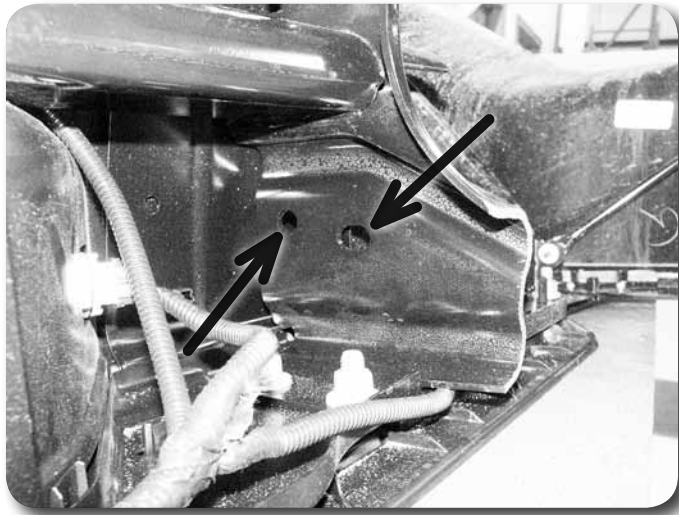
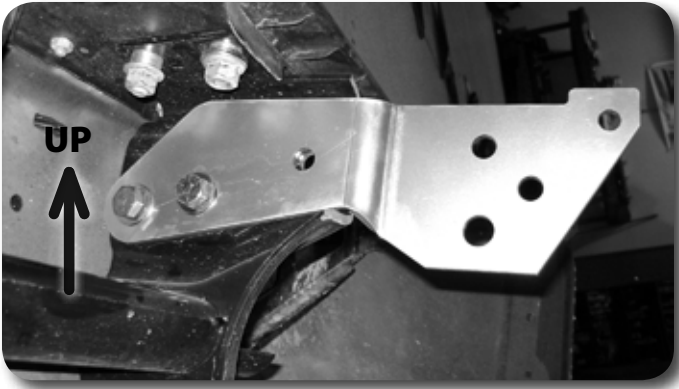

Figure 6
Figure 7
8. Locate the existing hole and slot in the bumper bracket that was trimmed **Figure 6**. These are located farther inside the bumper. Attach the new provided bumper brackets to the bumper using these existing holes and slots. Fasten the new brackets to the factory bracket with 1/2" x 1-1/4" bolts, nuts and 1/2" SAE washer. The brackets should mount to the inside surface of the factory bracket and offset toward the outside of the bumper **Figure 7**. Adjust the brackets so they are visually square with the top edge of the factory bracket and snug hardware.
9. Using the new bumper brackets as templates. Mark the third bracket mounting hole to be drilled **Figure 7**. Remove the brackets and drill a 1/2" hole at each mark.